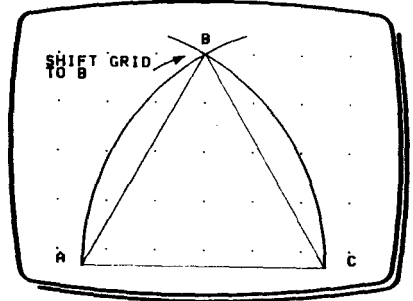

Fig 4
- 14 Select FIND, and plant the origin cursor at (A) in Fig 4.
- 15 Position the dynamic cursor at the arc intersection (now a lock point), then draw line (AB) in Fig 4.
- 16 Select FIND, then repeat for line (BC).